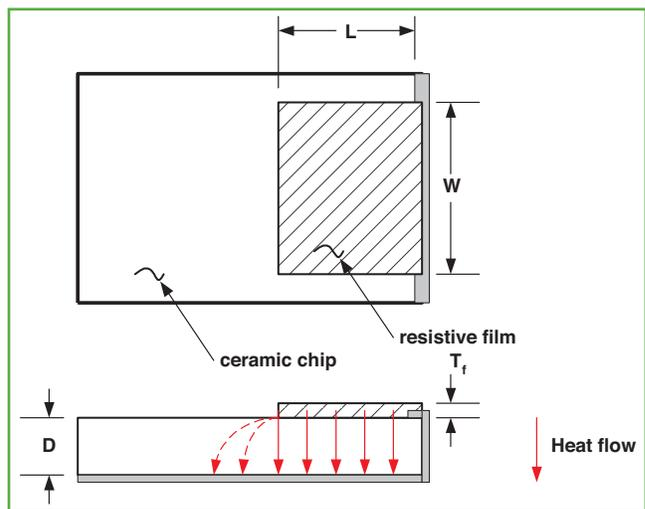

Figure 8: Chip termination showing heat flux
Assuming, from the aging tests, that the designer now knows the maximum film temperature allowable at full applied power, it must now be determined how to insure it is not exceeded – and what limitations it imposes on electrical performance. **Figure 8** shows the heat flux in a chip termination. We begin
with three simplifications to establish an elementary thermal model: (1) The heat is generated uniformly everywhere in the film; (2) the heat flow is one-dimensional – no spreading – from the film to the bottom of the chip, which is assumed at ambient (thermal ground); and (3) there is no convective or radiative heat flow. Concerning (1), we know that the currents in the film tend to be edge concentrated – much more so the lower the resistivity – and so there will be more heat generated at the edges than at the center. Nevertheless, we expect the approximation to be quite good for film geometries where the length and width are substantially greater than the substrate thickness and for the range of film resistivities typically encountered in RF applications. Additionally, we are not considering tapers, wherein the width of the film and hence the power dissipated at any cross-section may vary along its length. Concerning (2), it is understood that there is indeed thermal spreading, not only from the front face of the film – heat flow lines shown dotted in **Figure 8** – but from the lateral edges as well. Thus, the second and third assumptions are thermally conservative – there will be additional heat paths beyond those accounted for – while the first will need further investigation since edge-located hot spots could develop at RF that would not be revealed in DC tests.